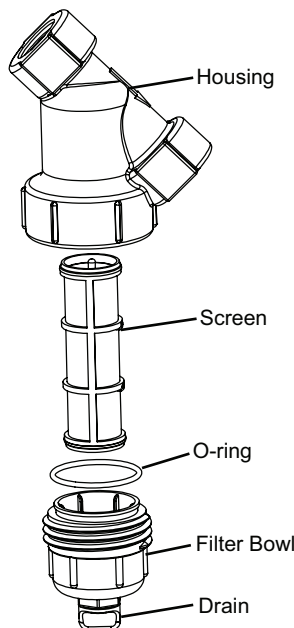

Figure 15
- Close the water pump supply valve (Figure 1) and open the filter drain (Figure 15).
- Loosen the filter bowl (Figure 15) by hand.